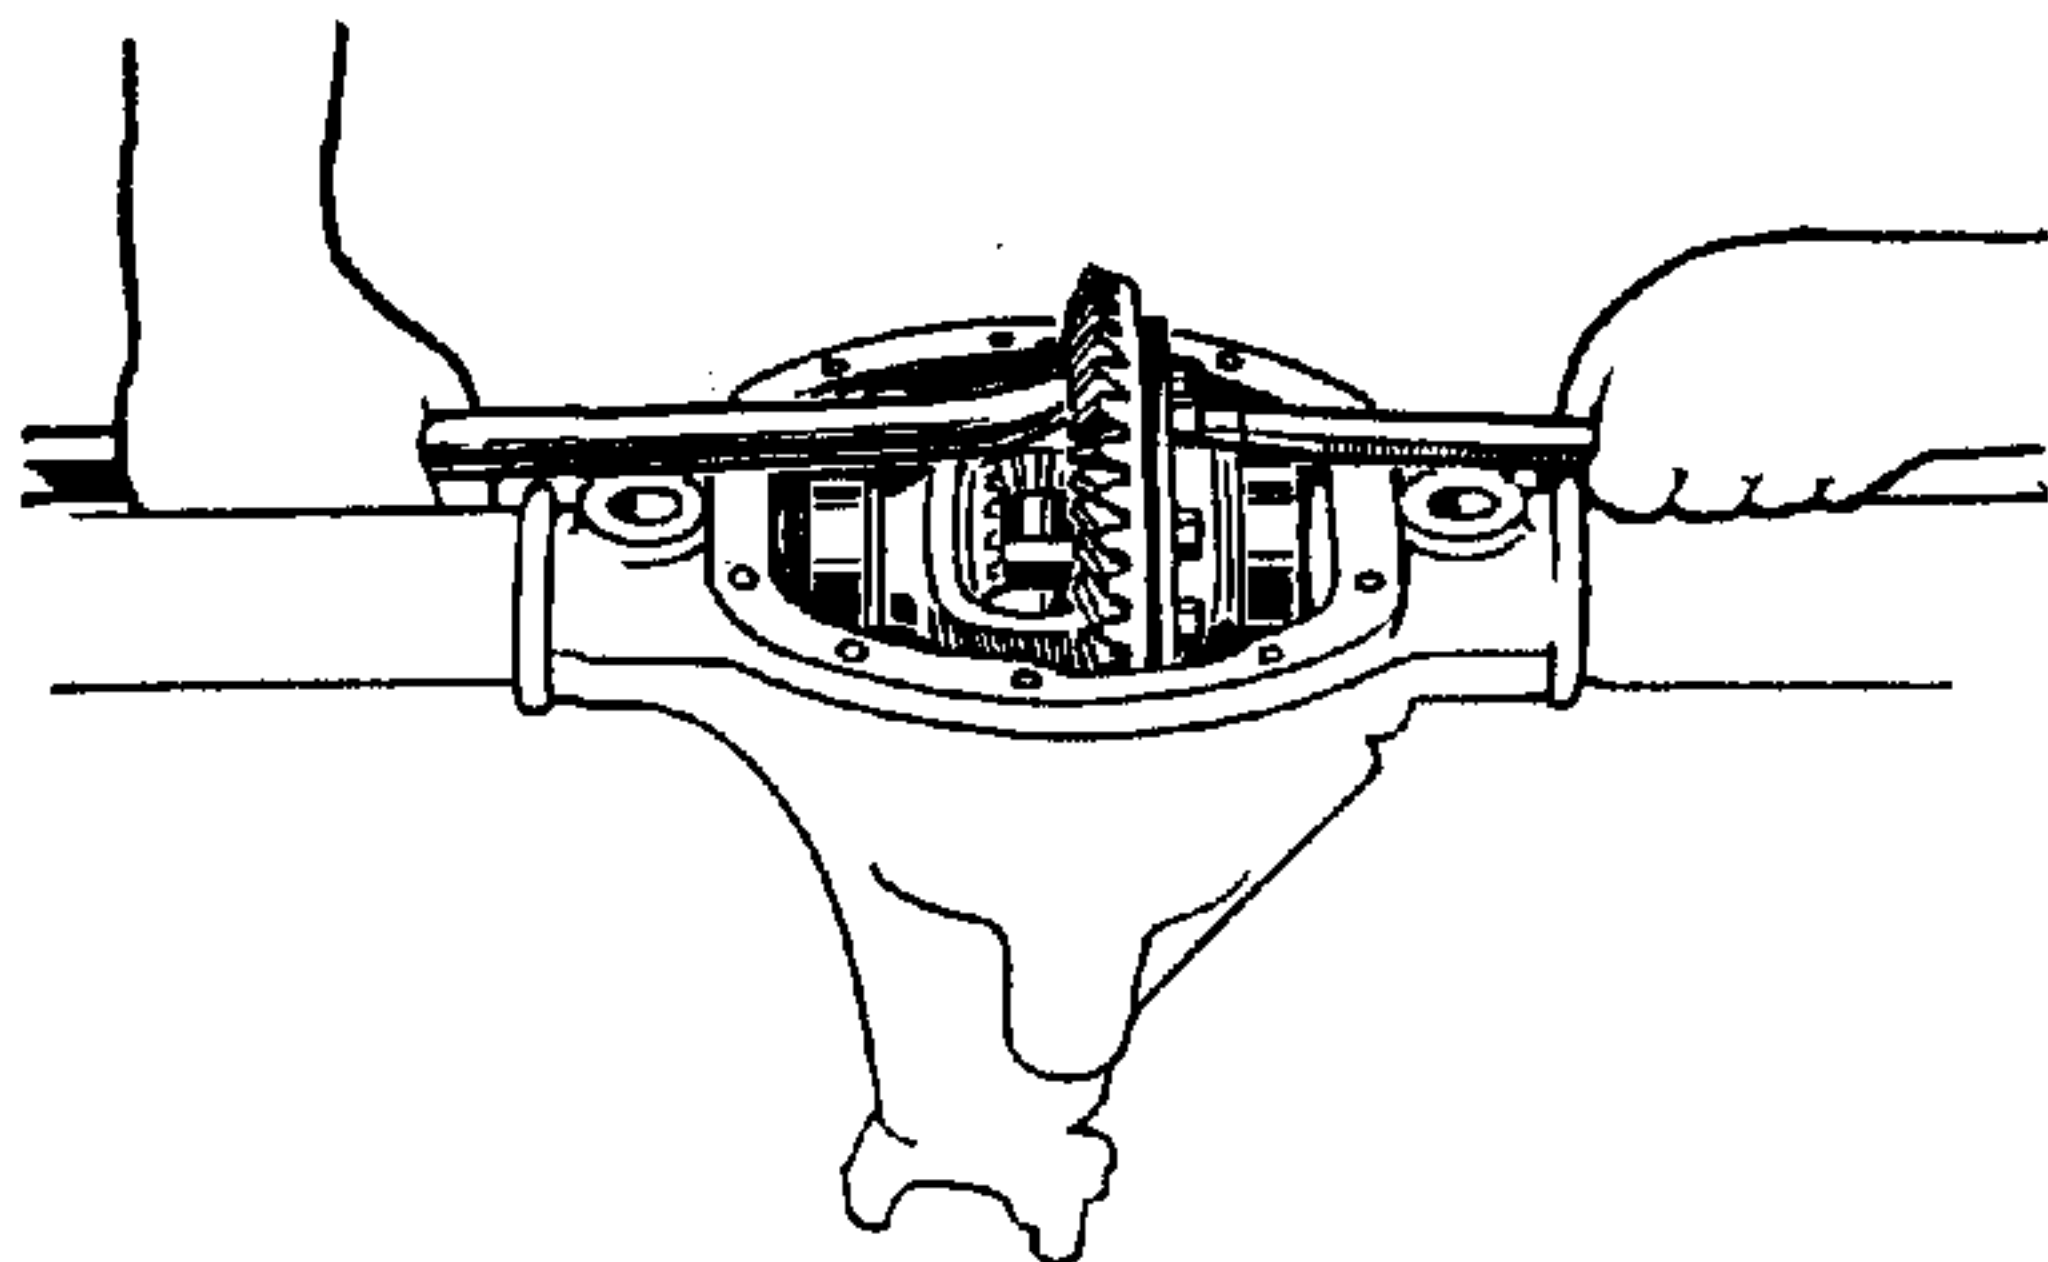

FIG. 2—REMOVING DIFFERENTIAL
3. Using two pry bars, one on each side of the ring gear parallel with the tube of the axle housing, pry out the differential assembly as shown in Fig. 2.